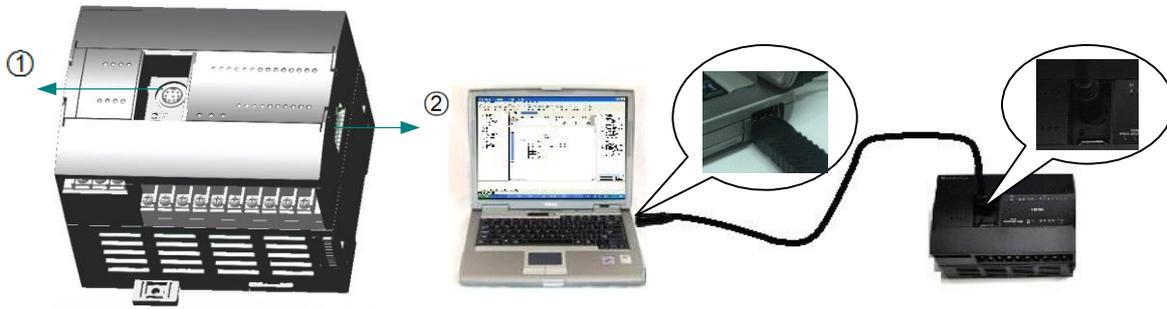

Figure 3-2 Communication Connection Diagram
RS485 communication interface can establish connection to personal computer (PC) through programming cable, realize download of user program and on-line debugging and be applied to communication with field devices. Junction and communication between CPU module and PC are achieved through PS/2 (at ① in Figure 3-2), junction and communication between CPU module and expansion module are achieved through connector (at ② in the Figure 3-2).